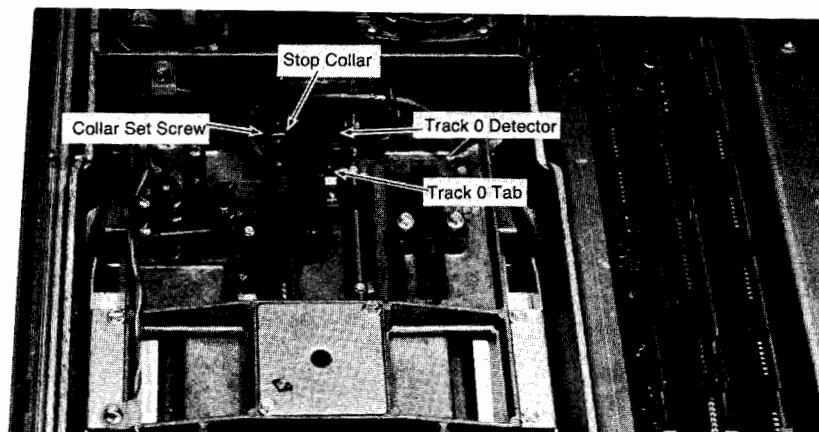

Figure 3-17. Carriage Adjustment
2. Position the track 0 tab approximately in the center of its slot in the track 0 detector and tighten the screw (see Figure 3-17).